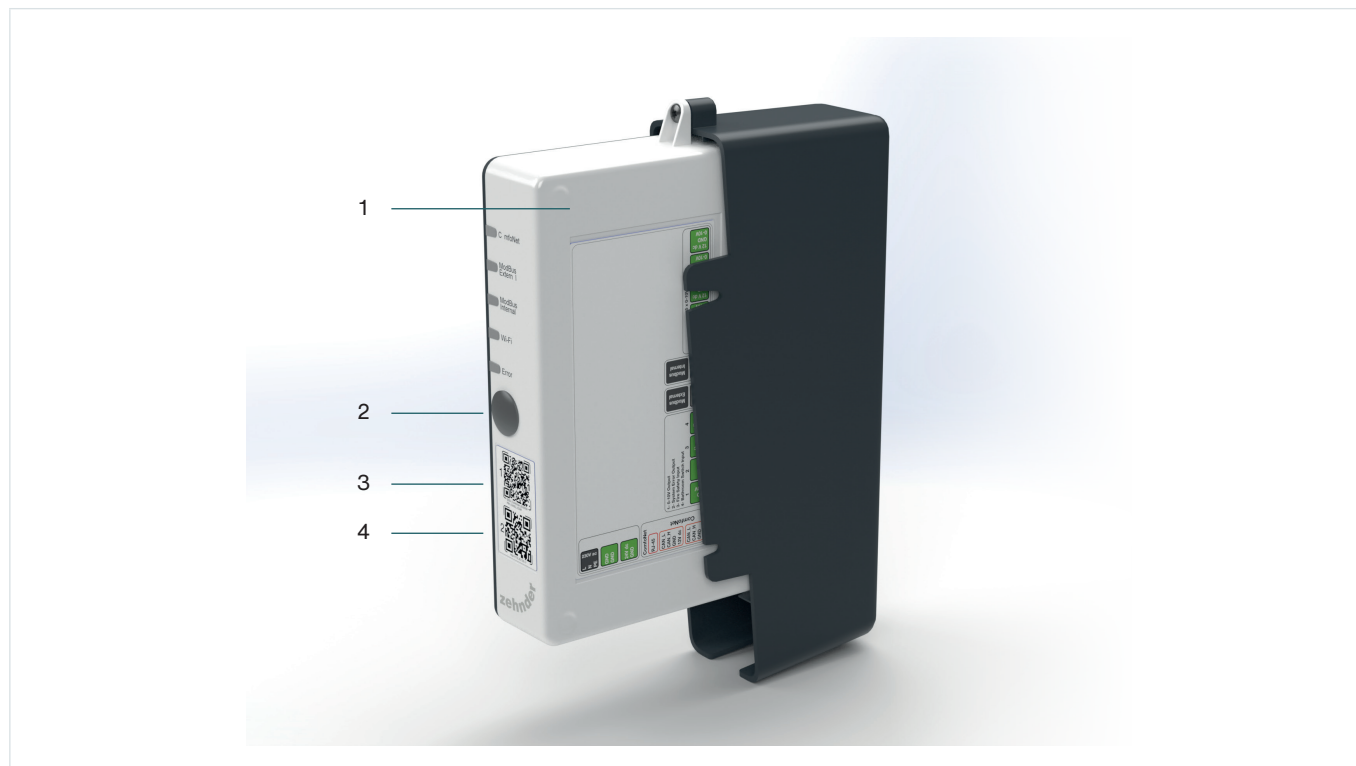

Fig. 6.1 - Activating Wi-Fi on CM
1. Press the Wi-Fi button (Fig. 6.1, pos. 2)
2. Scan the first QR code (1) with a mobile device (not shown). In this way, a connection is established with the correct network, which also contains the password. If a laptop is used, the text below the QR codes can be used. The Wi-Fi SSID name is CVA..... and the password (PW) is stated below this first QR code.
3. Scan the second QR code (2) to go to the correct URL <http://172.30.135.1/> to the built-in web server (CM-EW). The user name is admin and the password is 4210 (only these four digits).